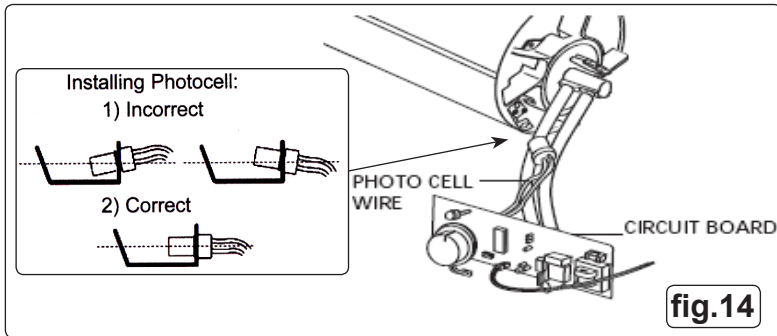

fig.14
6.7 Flame-out device. The AB heaters are fitted with a flame-out device (a photocell, see fig.14), which cuts the fuel supply should the flame be inadvertently extinguished, or if the unit overheats. If this happens, switch off the heater and unplug from the mains supply. Check the heater to determine the fault. In particular check that the air intake is not obstructed and that the internal fan is rotating freely. Wait a few minutes and restart the unit. If the problem persists contact your local Sealey Service Agent.